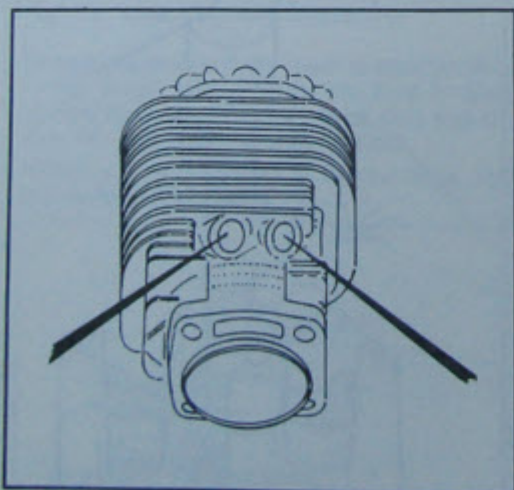

Fig. 20 Port blanking plugs
The details as before (TA) apply except for item «b», the ports being blanked by core plugs instead of a plate (Fig. 20).